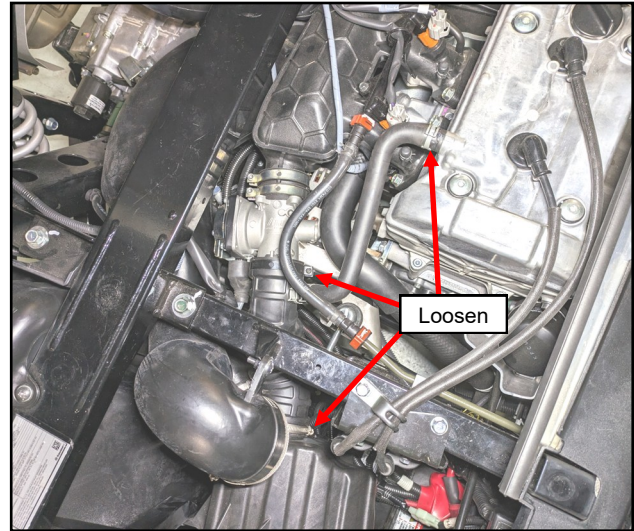

Fig. 2.8 (Remove Throttle Duct Assembly)
- 2.8 Remove and set aside throttle duct assembly with breather hose by loosening the clamps per fig. 2.8.